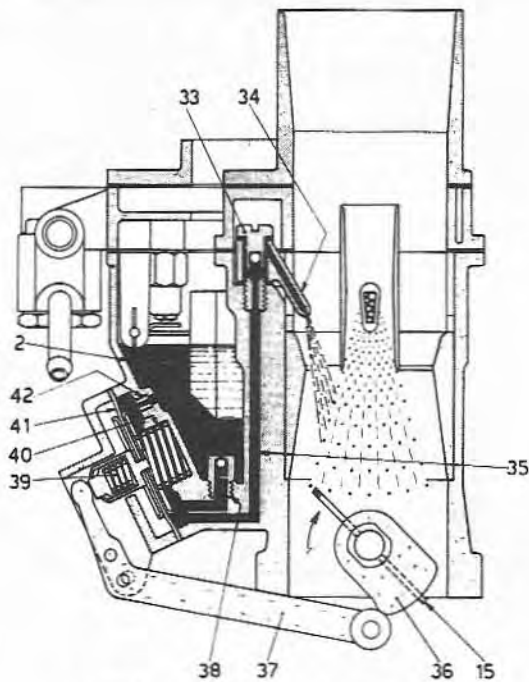

Fig. 12.4 Acceleration phase (Sec 3)
Refer to Fig. 12.4 and note that when the throttle valves are closed, the spring (40) pushes the diaphragm (41) outwards and fuel is drawn from the float chamber (2), through the inlet valve (38) into the pump chamber. When the throttle valves are opened, the cam (36) operates the lever (37) and the diaphragm (41) is depressed against the tension of the spring (40). Fuel is forced along the channels (35) to the delivery valves (33) and is injected through the pump jets (34) into the carburettor barrels in the vicinity of the auxiliary venturis. The spring (39) dampens any sudden opening of the throttle valves and prolongs the fuel delivery. The calibrated discharge hole (42) determines the maximum pressure of fuel injected into the carburettor and also allows any accumulated air and vapour to escape into the float chamber. The inlet valve (38) may also incorporate a calibrated discharge hole, whereby a further amount of fuel returns to the float chamber. By fine calibration of this hole it is possible to determine the exact quantity of fuel injected by the accelerator pump.